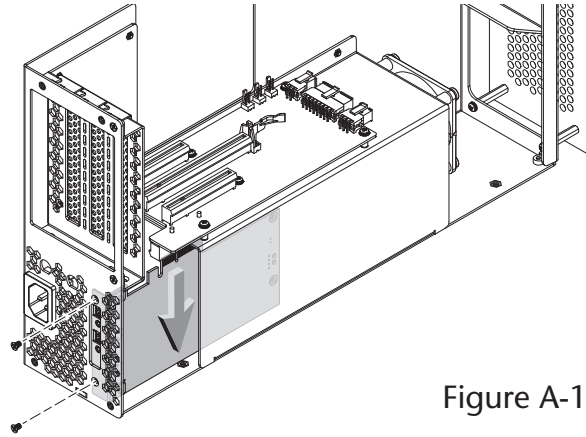

Figure A-1
1. Remove and set aside the two screws securing the Thunderbolt interface card to the PCIe card expansion module (**Figure A-1**).
2. Gently push down on the edge of the card to disengage the card from its slot (**Figure A-1**).